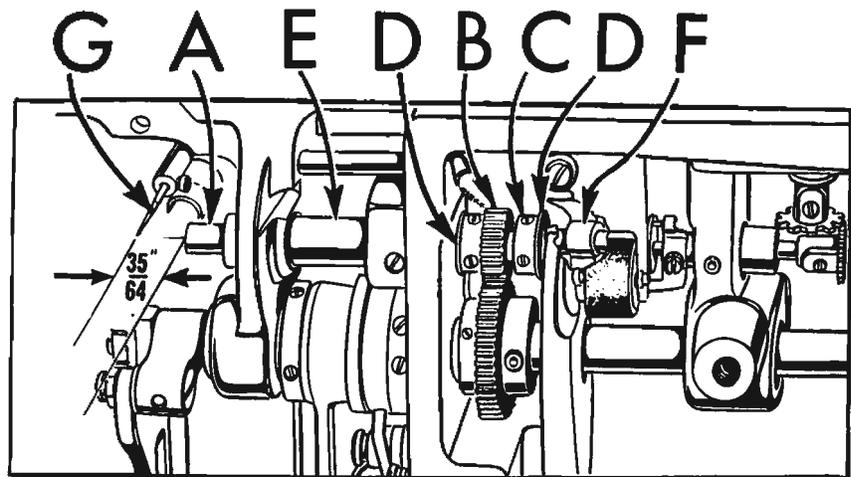

Fig. 19
The hook shaft (A, Fig. 19) is held in position by the pinion (B) and collar (C) thrusting against hard steel washers (D) between the long left hand bushing (E) and the short right hand bushing (F).